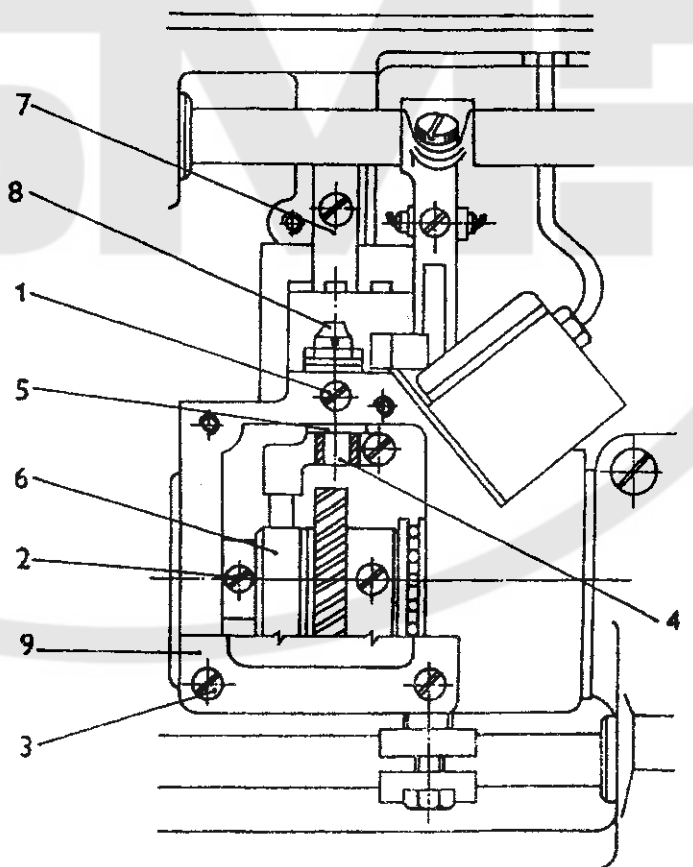

Fig. 9
13. **To adjust the hook opening (Fig. 9)**